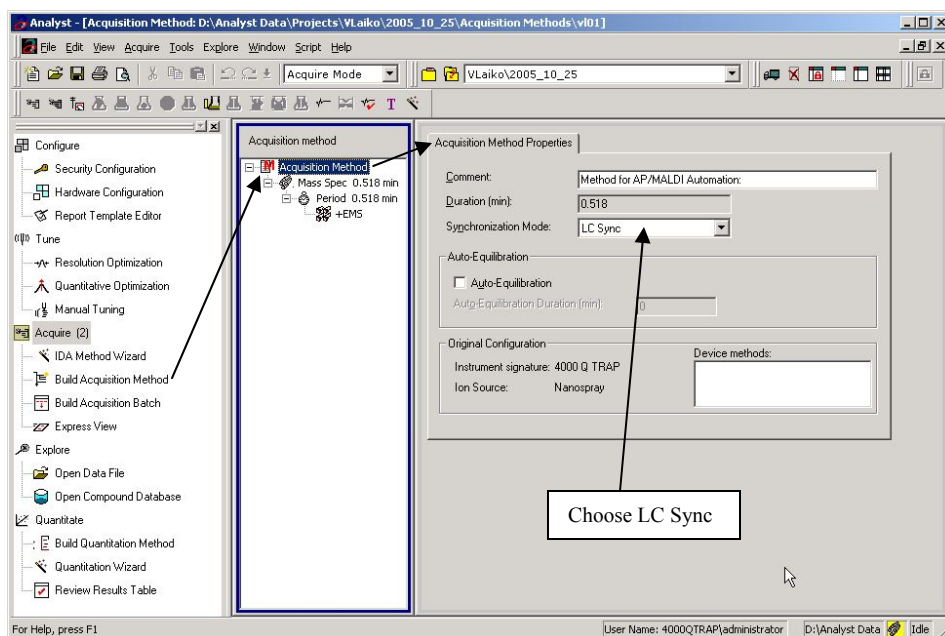

Fig. 7-28. Building of Acquisition Method for Automation Mode.
- Build the proper Acquisition Method: in *Analyst*, double-click “Build Acquisition Method icon (Fig. 7-28). Highlight Acquisition Method and make sure that “**LC Sync**” is chosen as a Synchronization Mode.